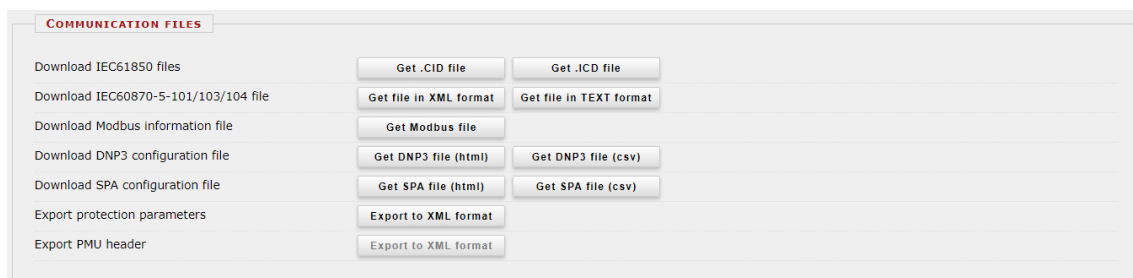

Figure 4-33 Communication files
**Communication files** (Figure 4-33) for various protocols can be downloaded by clicking the appropriate button.